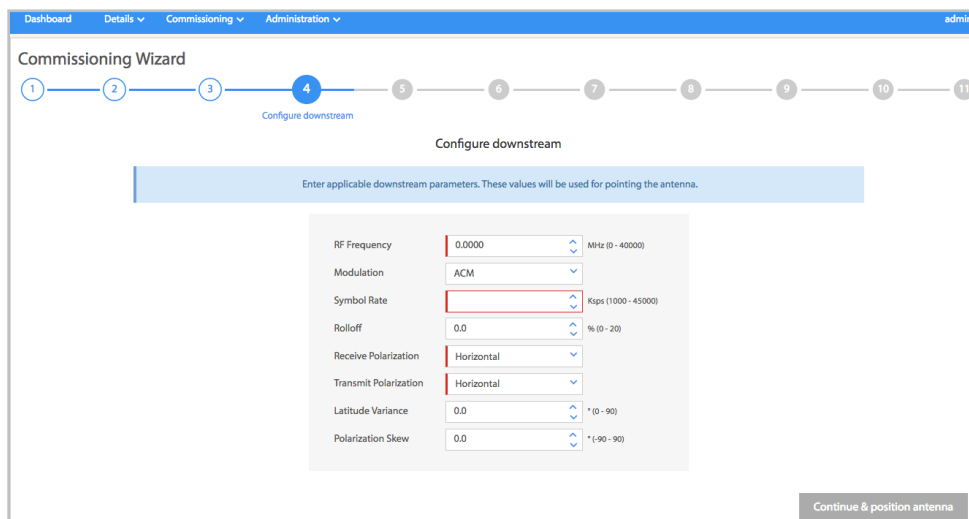

Figure 6 — Commissioning Wizard Step 4 – Configure Downstream
14. Click the **Save remote location and continue** button at the bottom, right corner of the Commissioning Wizard Step 3 page once all of the fields are populated, and to go to Commissioning Wizard Step 4 (Configure downstream) page, as shown in **Figure 6**.